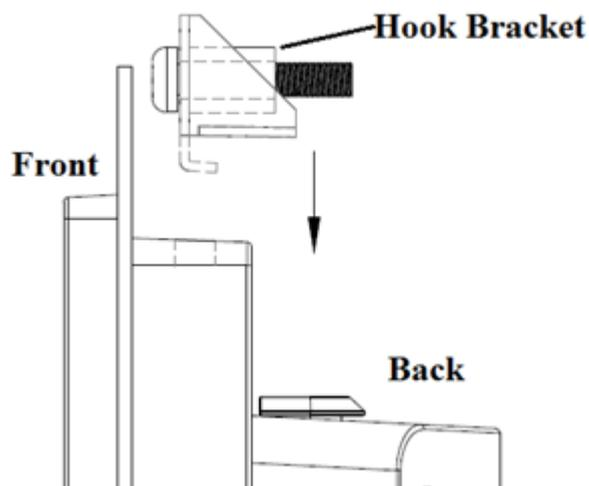

Figure 2.25 Hook Brackets for Panel Mounting
- Put the machine into the cabinet and take out the eight hook brackets from the accessory box. (See Figure 2.25)